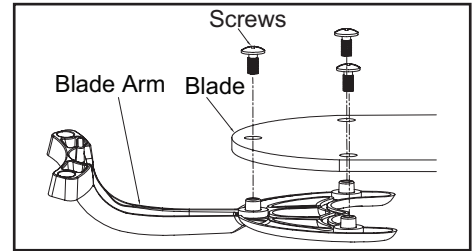

Figure 11
1. Attach blade to blade bracket using screws shown in Figure 11. Please note that the rubber washers are preattached to the blade bracket. Start a screw into the bracket. Repeat for the two remaining screws.